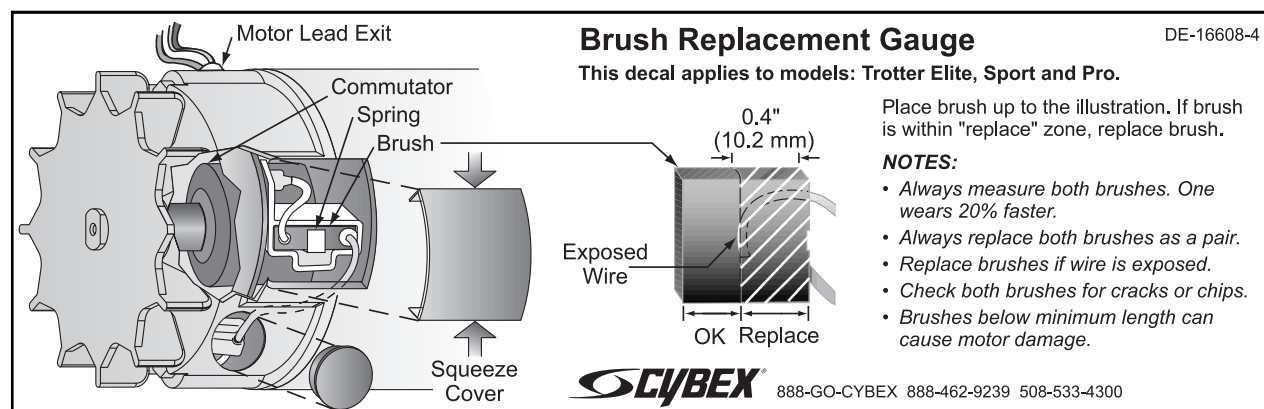

Figure 13
- A. Squeeze each of the two rectangular brush covers to remove it from the motor. See Figure 13.
- B. Lift off the round brush cover. See Figure 13. If necessary carefully pry the cover up using a flathead screwdriver.
- B.** Inspect the brushes for signs of excessive wear or cracks. The motor brushes must be replaced if one or both is worn to 0.4" (10.2 mm) or less in length, is broken or chipped, has a broken spring or binds in the motor. **NOTE:** *For your convenience the decal shown in Figure 13 is under the motor hood cover.*